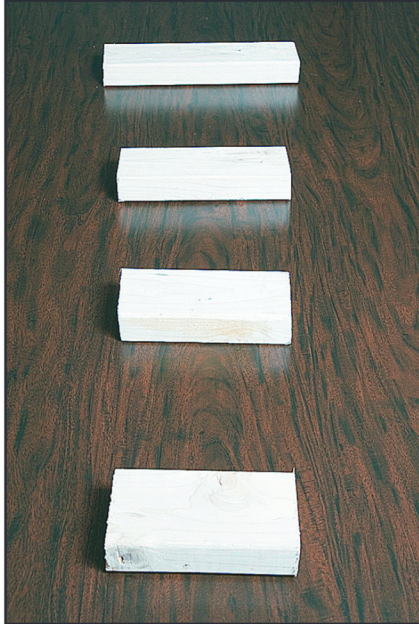

Figure 2
1. Lay out wooden blocks (Fig. 2) to support lower cement board and to protect work surface from heat.